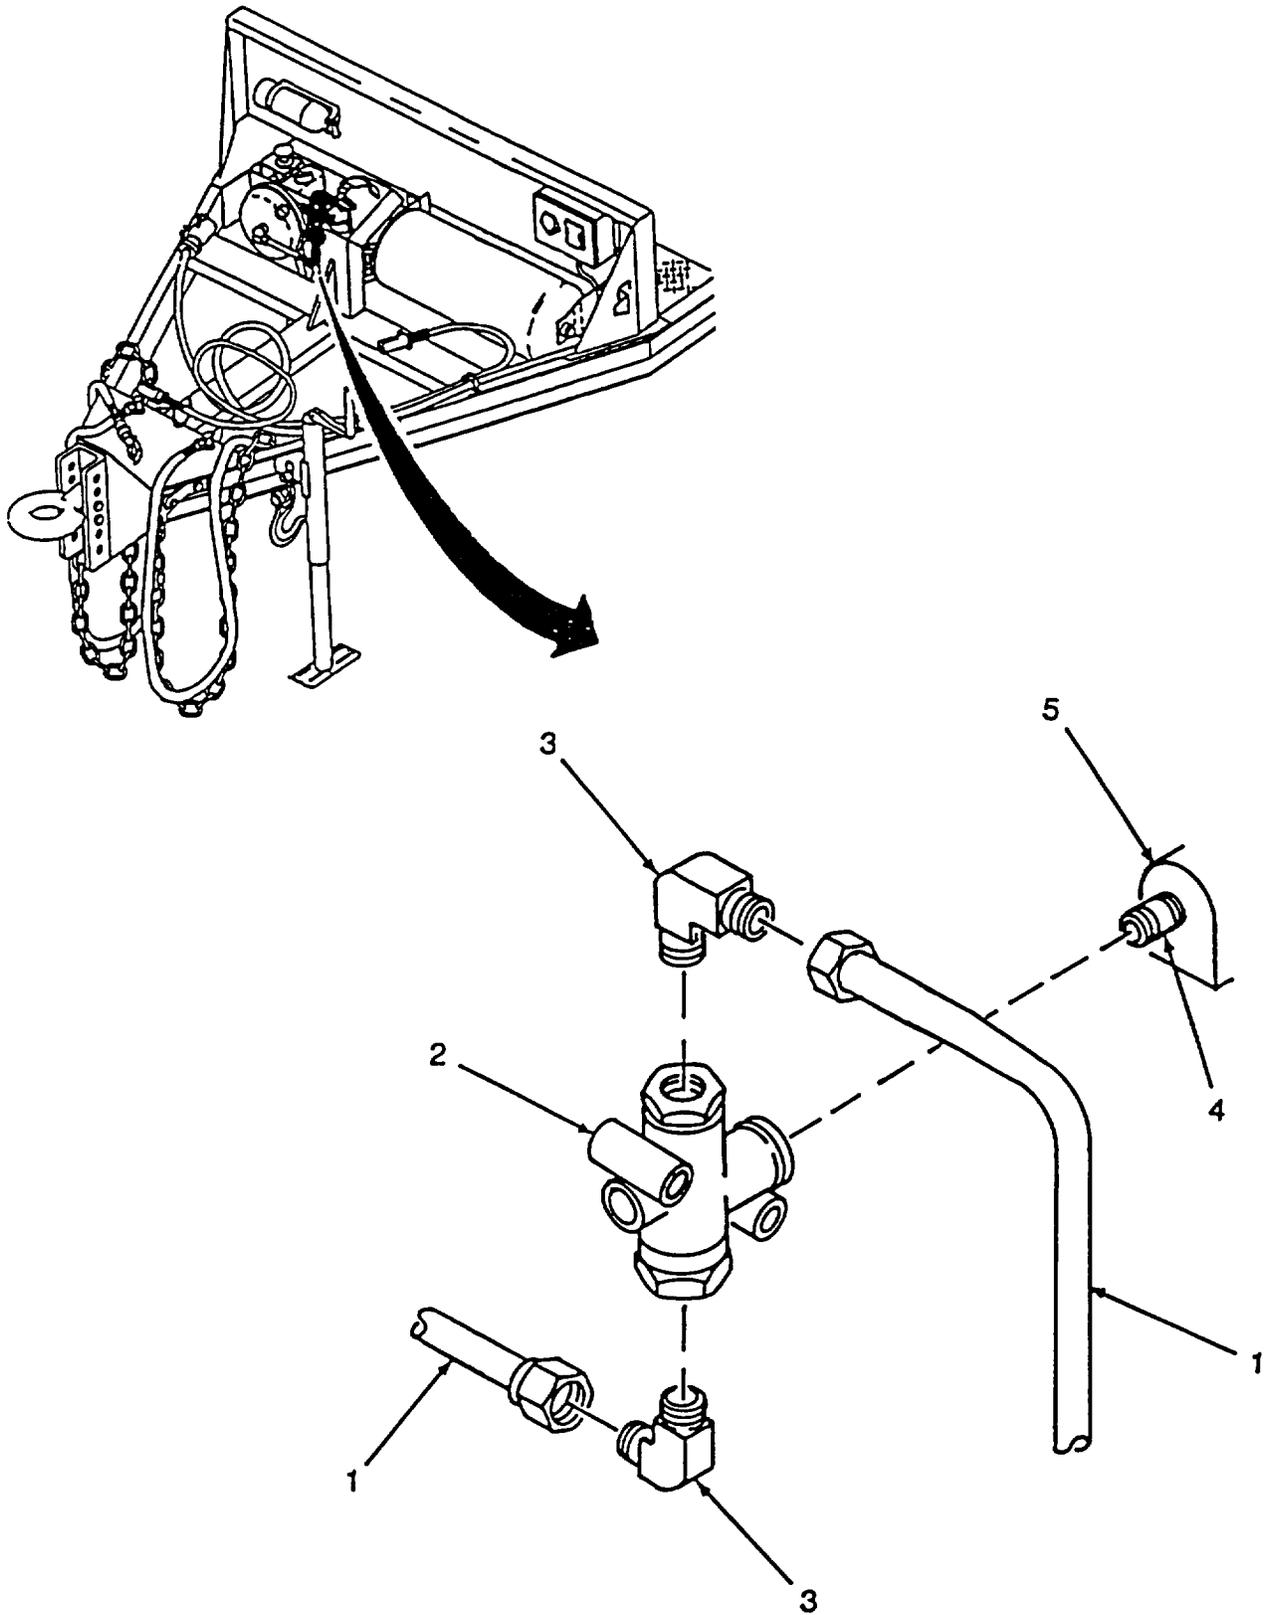

Figure 4-53. Synchronizing Valve
a. Removal. (Refer to Figure 4-53).
- (1) Completely vent trailer air brake system pressure by opening drain valve. (para. 4-51).
- (2) Disconnect two air brake lines (1) from two elbows (3).
- (3) Unscrew two elbows (3) from ports of synchronizing valve (2).
- (4) Remove synchronizing valve (2) from hex nipple (4) in quick release and limiting valve (5).
- (5) Clean and Inspect synchronizing valve (2), two male elbows (3), and air brake lines (1).
**NOTE****Before installation wrap threads on elbows (3), hex nipple (4) with Teflon Tape.**